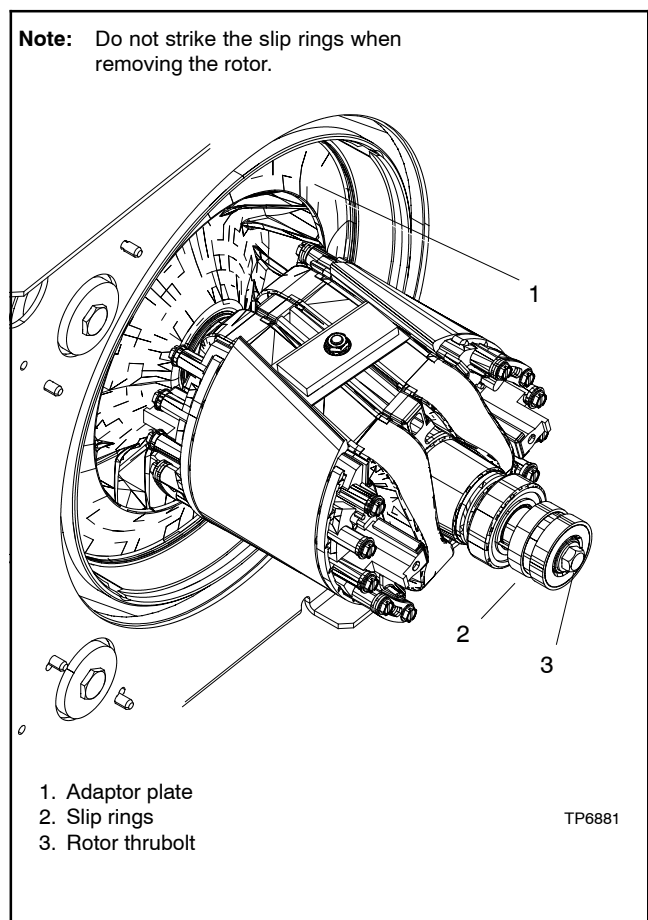

Figure 6-10 Rotor Assembly with Thru-bolt
a. Loosen but do not remove the rotor thru-bolt. Use a strap wrench on the rotor to keep the rotor from turning during loosening, if necessary. See Figure 6-10.
b. Loosen the rotor assembly by striking the side of the rotor with a soft-faced hammer to loosen it from the tapered crankshaft fitting. See Figure 6-10. Rotate the rotor and strike it on alternate sides until it can be rocked slightly back and forth.